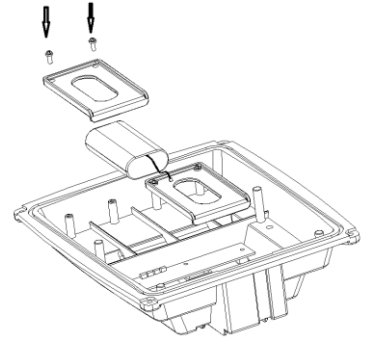

Fig. 13
3. Install the new batteries into the battery compartment. **(Fig. 13)**